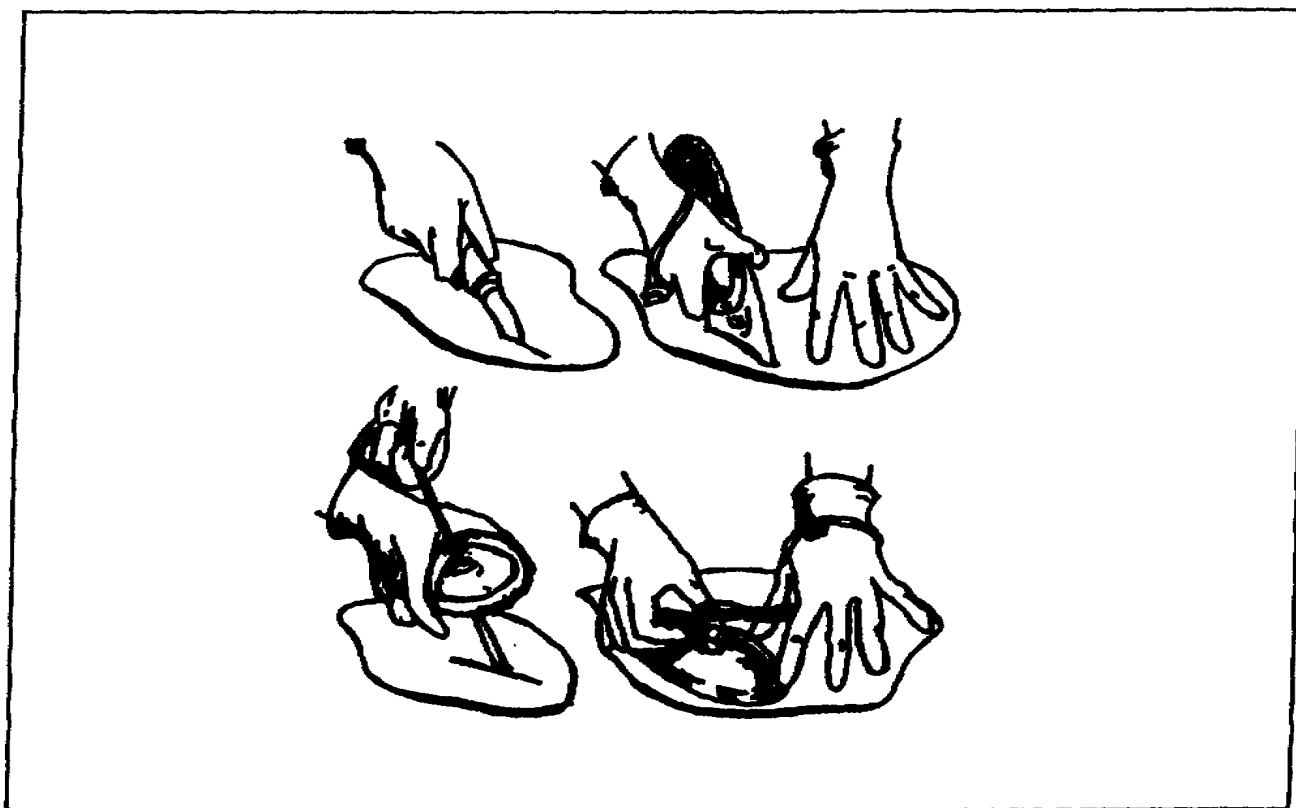

Figure 1-15. Application of sealing clamps
b. Sealing Clamps. Use a sealing clamp if the hole is larger than three-eighths of an inch. Repairs with sealing clamps are more permanent than those with sealing plugs. Sealing clamps use the tank skin as a gasket-type sealant until you can send the tank to the general support maintenance facility. You may install sealing clamps when the tank is full, but install them as quickly as you can. Perform the following steps and those shown in Figure 1-15 to repair a sealing clamp: